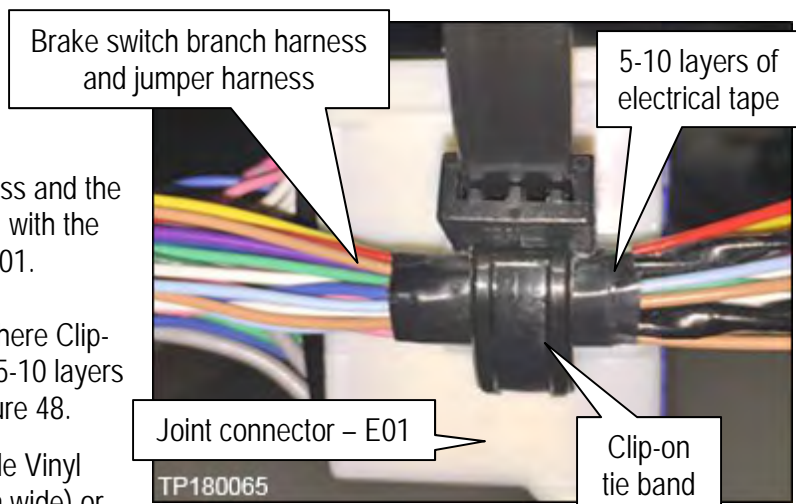

Figure 48
**IMPORTANT:** If tape is not present where Clip-on tie band will be located, wrap with 5-10 layers of electrical tape first as shown in Figure 48.